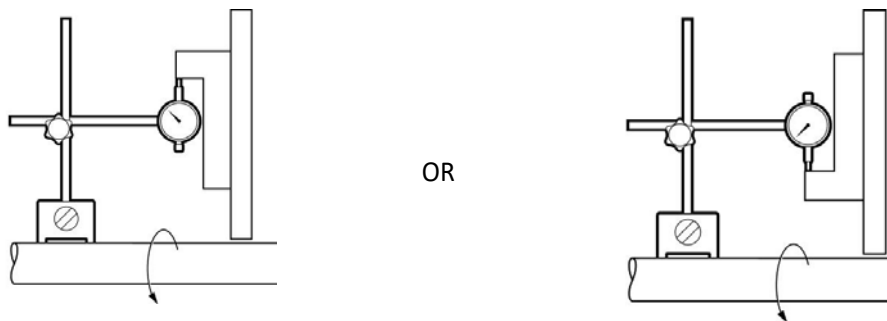

Figure 3
- 3.1.2 Concentricity of Mounting Bracket:** With the dial indicator mounted to the shaft, place the indicator tip on the pilot diameter and rotate the shaft. The Total Indicated Reading should have a maximum value shown in **Table 10 value B**. See **Figure 3** below.
- 3.6.5 Ensure that the Hub is positioned on the shaft in relation to the unit, as shown in **Figure 3**. The Hub should be locked in this position to prevent axial movement during operation.